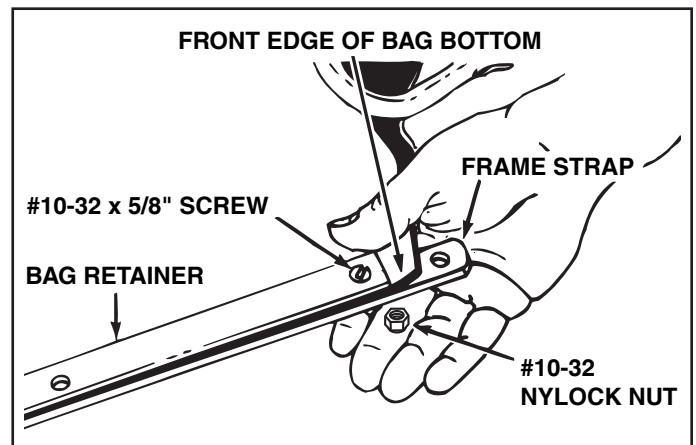

FIGURE 13
- Assemble the bag retainer and the bag frame strap to the front edge of the bag bottom. Place the bag retainer on top and the bag frame strap underneath the bag bottom. Fasten together using six #10 x 5/8" screws and #10-32 nylock nuts. See figure 13.